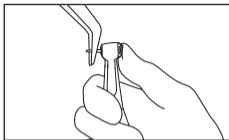

Fig. 7
- 2 Remove the bur/cup/brush. (Fig. 7)